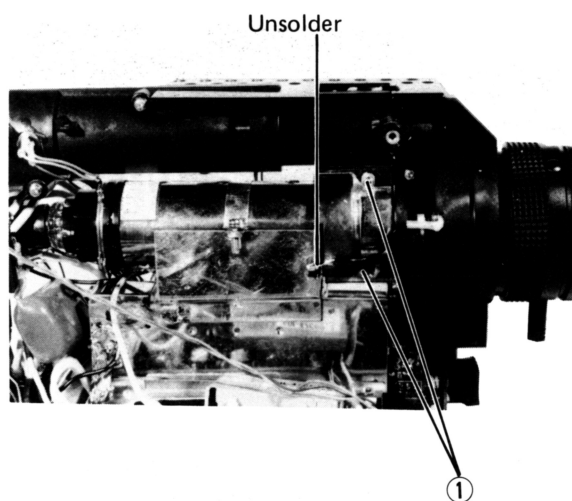

Fig. 3-6
Remove two screws ① from the shield case as shown in Fig. 3-6.